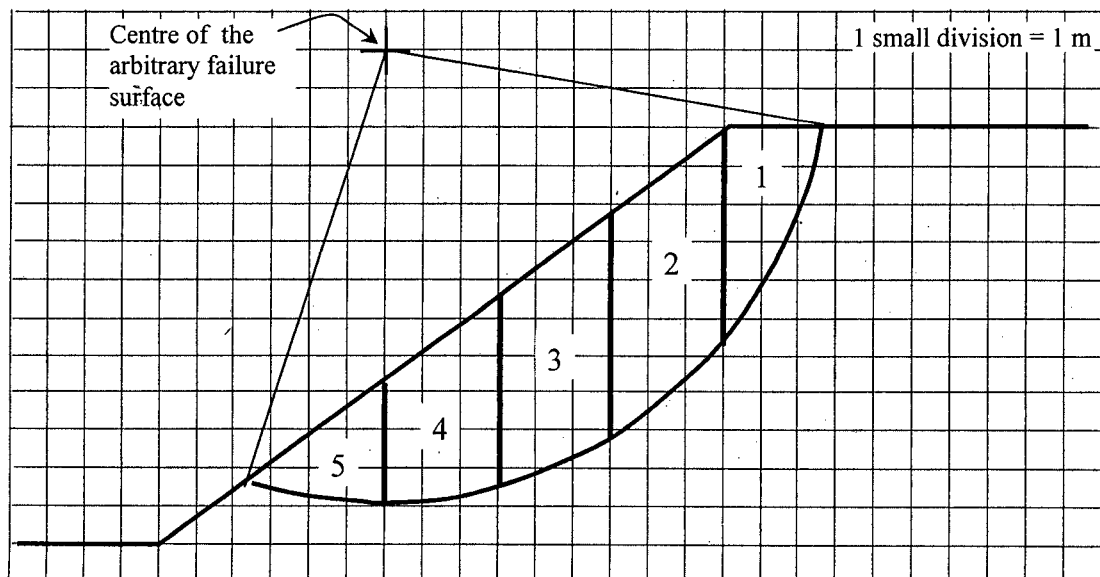

Fig. 2 Cross-section of an earth slope and arbitrary failure surface.
8. (a) What is meant by rapid draw down condition? Draw a typical qualitative plot of stability chart developed by Morgenstern for relevant slope stability analysis. (5)
(b) Fig. 2 shows the cross-section of an earth slope in homogeneous clay soil. The figure also shows an arbitrary failure surface, its center and five slices. Calculate the factor of safety, using **Ordinary Method of Slices**, Given  $\gamma = 16.8 \text{ kN/m}^3$ ,  $q_u = 50 \text{ kPa}$ . For homogenous soil and Ordinary method of slices, Factor of Safety is given by: (15)